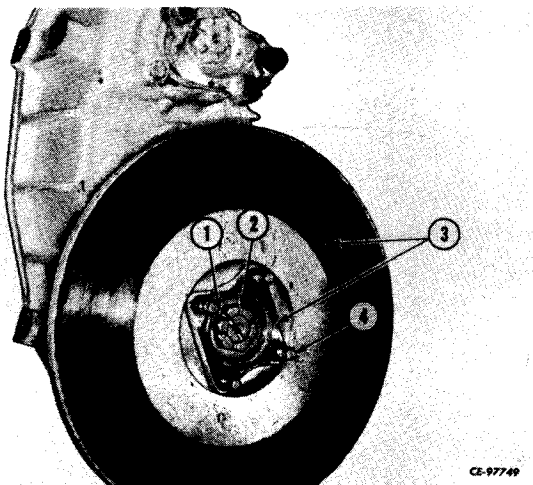

Figure 4-82
Remove cotter pin (1, Fig. 4-82) and lock nut (2).